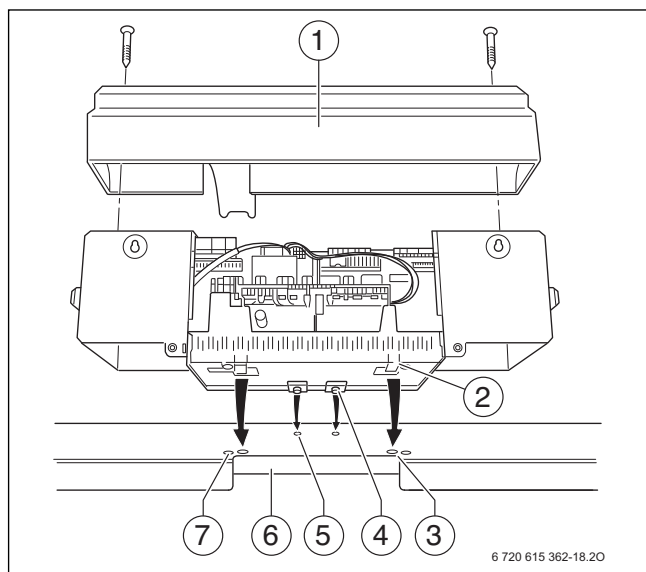
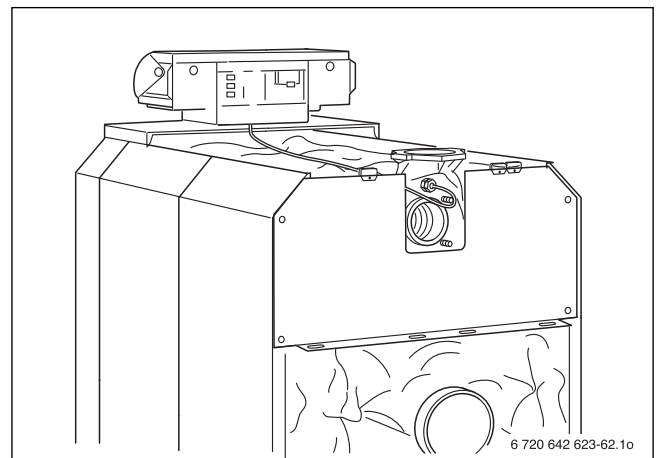

Fig. 60 Installing the control panel
Fig. 65 Boiler with fitted control panel
Fig. 60 shows the control panel and the top cover "A" from the back.
- ▶ Loosen both screws on top of the control panel (→ Fig. 60, [1]) and remove the top cover.
- ▶ Mounting the control panel in place Fit the control panel at the front by inserting the alignment tabs (→ Fig. 60, [4]) into the oval holes in the front top boiler cover (→ Fig. 60, [5]). Tilt the control panel forward and then tip backward. The flexible hooks (→ Fig. 60, [2]) must engage with the rectangular cutouts in the rear of the front boiler cover (→ Fig. 60, [3]).
- ▶ Attach the base of the control panel to the top cover (→ Fig. 60, [6]) using two self-tapping screws (→ Fig. 60, [7]).
- ▶ Put the top cover in place (→ Fig. 60, [1]) and tighten the screws (→ Fig. 65).